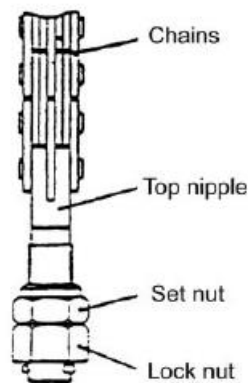

Fig. 6-7
- (1) Place a salver on the forks and make the forklift stop on the horizontal ground.
- (2) Make the forks and salver descend to the ground.
- (3) Take down tie-in on top of the chains. And take out chains from sheave. (See Fig. 6-7)
- (4) Make the inner mast rise.
- (5) The forklift can be reversed when the lift bracket disengaged from the outer mast.
- (6) Replacing main rollers